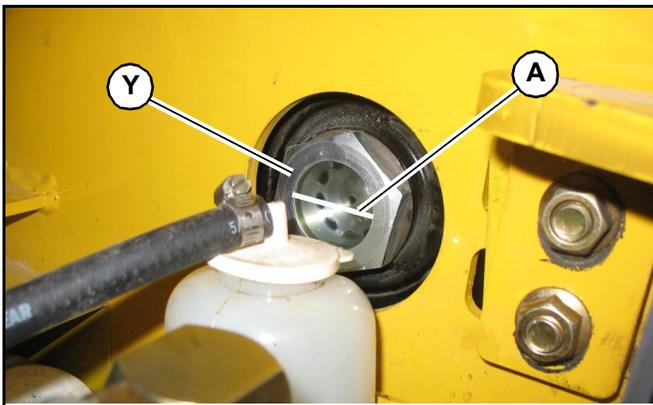

Fig. 143 – Hydraulic Oil Level Sight Gauge
5. Check the level of the hydraulic oil in the sight gauge (Y, Fig. 143) located in the right engine compartment wall. The oil level should be in the middle of the sight gauge (A).